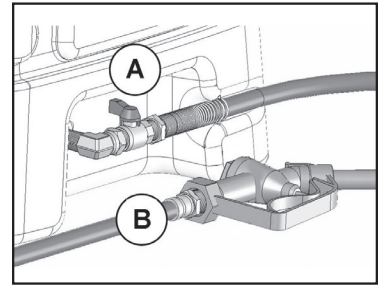

Figure 1
1. Assemble the ½” threaded fitting of the hose [3] into the valve on the bottom of tank [1]. Refer to “A” of Figure 1. Do not use any pipe sealant or tape on this connection.
2. Assemble dispensing nozzle [4] onto fitting and tighten. Refer to “B” of Figure 1.